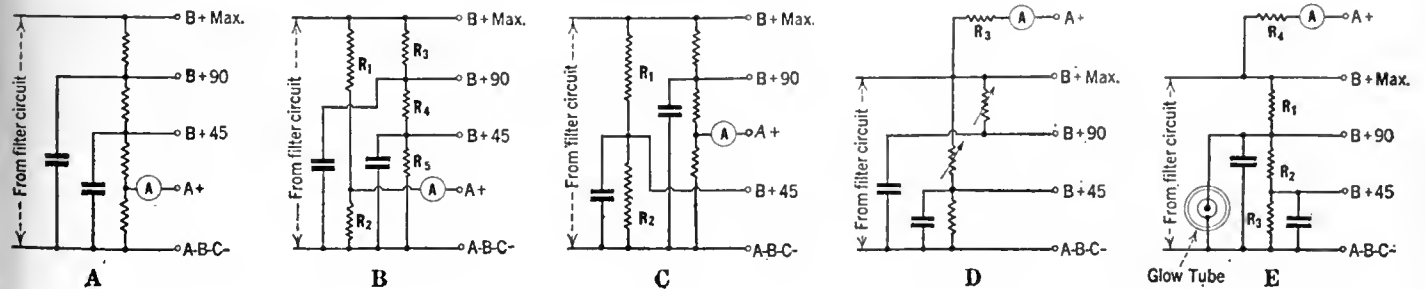
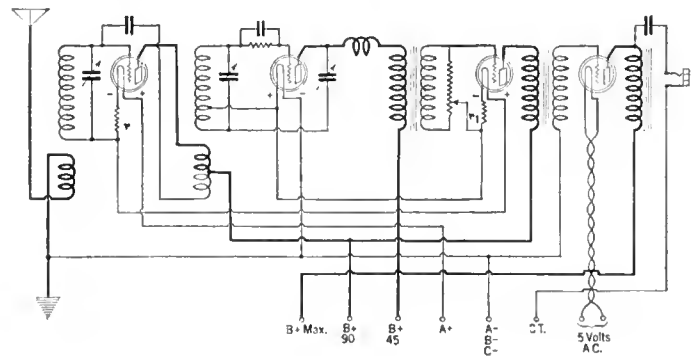
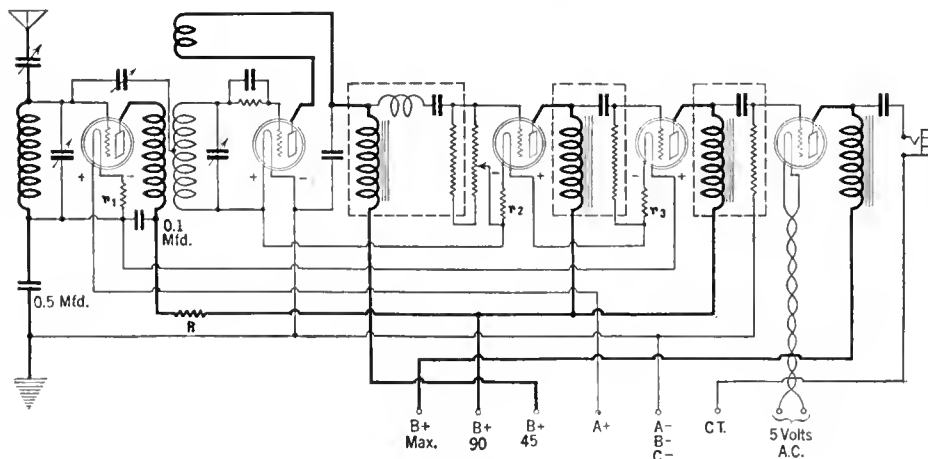

FIG. 1
FIG. 3
FIG. 5
using a five-tube receiver consisting of a stage of r.f. amplification, regenerative detector, and a three-stage double-impedance amplifier. A regenerative receiver using this type of amplification is frequently difficult to get working properly with a power-supply unit because of a marked tendency to "motor-boat," and it was felt that, if this receiver could be made to function satisfactorily with an A, B, C power unit, any other receiver would surely work satisfactorily. It was found that the receiver "motor boated" badly using the output circuit shown in Fig. 1, A, although when a two-stage transformer-coupled amplifier was substituted for the double-impedance affair, results were excellent. To prevent "motor boating" with the impedance amplifier, the output potentiometer circuits shown at B, C, D, or E, Fig. 1, had to be used.
brought down to two a.c. filament terminals, and it is absolutely necessary that the output circuit shown in the plate circuit of the 171 be used and that one side of the loud speaker jack connect to the center tap, CT, as indicated. The negative A should be grounded. No trouble should be experienced with this receiver due to "motor boating" and, for this reason, any output arrangement indicated in Fig. 1 may be used. However, in the event that the "Lab" receiver
In Fig. 3 we have a diagram of the new "Universal" receiver, described in RADIO BROADCAST for December, 1926, wired for a.c. operation. The order of filaments is the same as in the case of the "Lab" receiver, and the two resistances,  $r$  and  $r_1$ , should each also have a value of 18 ohms. This receiver will operate satisfactorily using any of the output arrangements indicated in Fig. 1.
has been constructed using a different type of audio amplifier, such as an impedance- or resistance-coupled circuit, it will very likely be necessary to use a special output arrangement in the power unit to prevent "motor boating." Separating the detector plate voltage supply from the rest of the A and B circuits, as shown in B, Fig. 1, will generally eliminate the trouble, but if "motor boating" is very persistent it will be necessary to use the glow tube arrangement shown at "E" in Fig. 1.
a.c. neutrodyne receiver. The resistances  $r_1$ ,  $r_2$ , and  $r_3$  should each have a value of 18 ohms, which will give the two r. f. tubes and the first a. f. tube a grid bias of 4.5 volts. The receiver will function satisfactorily with any of the output arrangements indicated in Fig. 1.
Fig. 5 is the circuit diagram of the impedance-coupled Browning-Drake receiver which was described in the September, 1926, RADIO BROADCAST, now connected so as to be satisfactory for use in conjunction with A, B, C power units. The order of the filaments from the A plus terminal is r.f. tube first, second a.f. tube secondly, first a.f. tube third, and detector finally. The resistance  $r_1$  should have a value of 12 ohms;  $r_2$  should have a value of 4 ohms, and  $r_3$ , a value of 12 ohms. The negative A should be grounded and should also connect through a 0.5-mfd. fixed bypass condenser to the lower side of the coil in the antenna circuit. It is unlikely that this receiver will give satisfactory results with the output circuit arrangements of the power unit shown at "A," "B," or "C," Fig. 1. For this set it will be preferable to use the circuit arrangement indicated at "D" or "E."